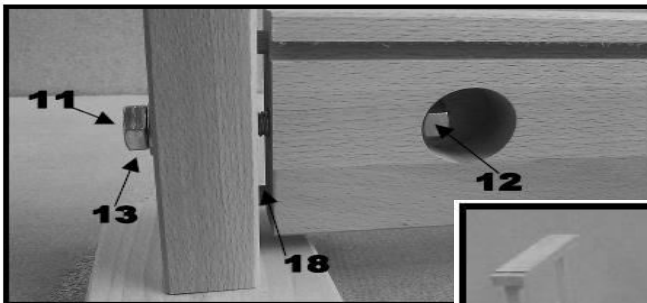
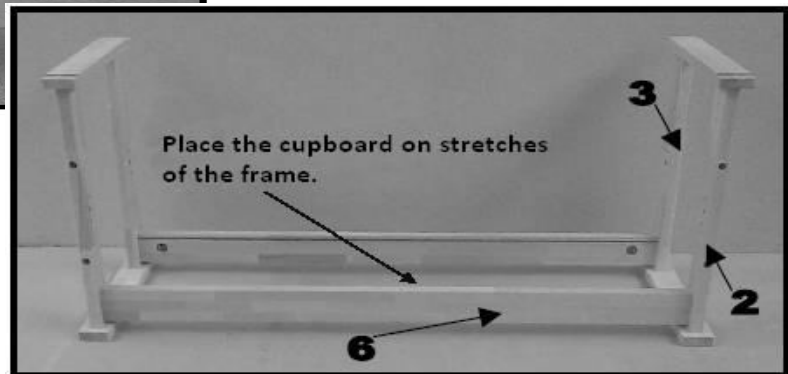

Fig. 2
Fig. 3
2. Use two Dowels (18), one M-12x100 Hex Bolt (11) Washer (13) and M-12 Nut (12) to attach each Middle Stretcher (6) to the leg assembly (Fig. 2 and Fig. 3) Make sure the Bench dog holes in the legs are all facing forward. Repeat this process for the other leg assembly.